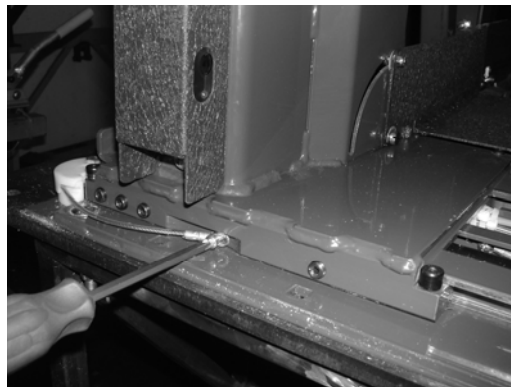

FIGURE 8
6. Refer to **FIGURE 8**. Remove anchored end of tower sliding cable.